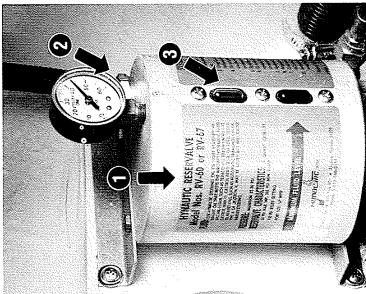

Figure 18
NOTE: For the correct type of fluid read the instructions on the cannister (1). See figure 18.
1. The pressure release valve is above the fill nut (2). See figure 18. Press the button to release the pressure.
3. Pour the hydraulic fluid through the fill hole until the fluid reaches the halfway mark in the top sight gauge (3). See figure 18.